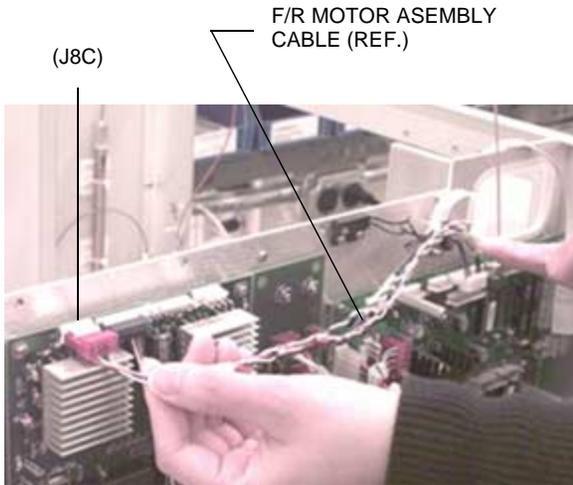

FIGURE 1.12.1
- 1.12.1 Feed the F/R Motor Assembly connector through the top cut-out of the divider panel assembly and cable clamp. Attach connector to (J8C) on the motor head PCB as shown in figure 1.12.1.